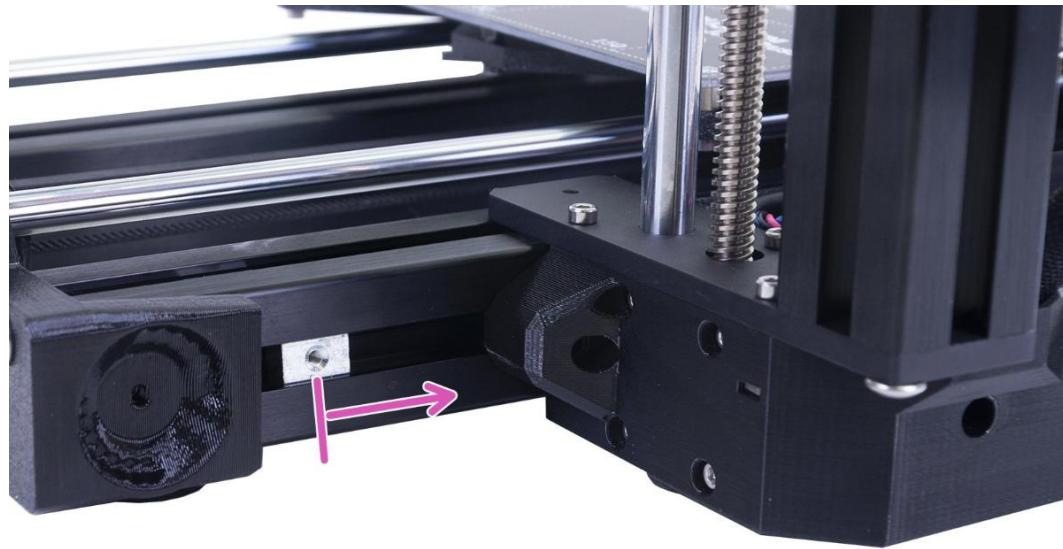

Figure 5.1.12
**A:** As shown in Figure 5.1.12. Take the second M3nE nut from the left and move it all the way to the right, use the Allen key and gently push it in. There is a notch inside, which will align it properly for the second screw.